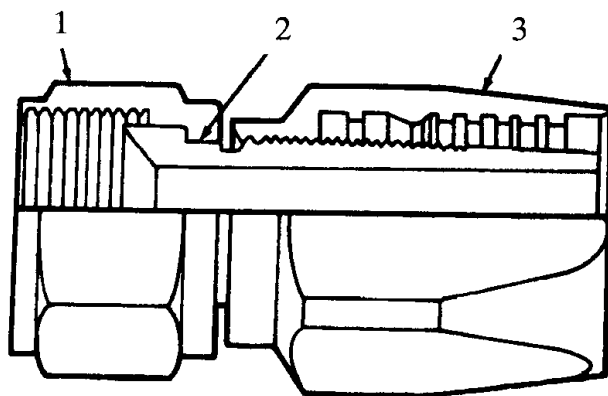

Figure 93 Flexible Hose Fittings
The fittings used at the ends of the flexible hose are of the swivel type, such as that shown in Figure 93 . The swivel end permits one end of the hose to be disconnected without disturbing the complete hose.
When making up a length of hose, each step should be finished carefully to assure proper connections at the hose ends (Figure 93).
1. Remove the hose fitting and nut from socket and hose. Figure 93 illustrates the swivel hose fitting. So that the swivel nut and fitting can be removed from the hose and socket assembly, install a male fitting in the swivel nut and tighten it. That locks the swivel joint assembly (nut and fitting). The swivel nut and fitting can now be turned out of the hose using a wrench.